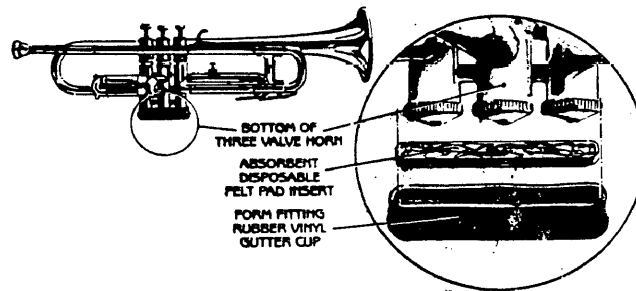

Fig. 3. "Grime Gutter" (International Trumpet Guild Journal 28).
Anyone who finds the trumpet's upper register tight or stuffy should try loosening the bottom valve caps, particularly the third valve cap. Better yet, loosen all caps one or more turns and put on a "Grime Gutter" (see Figure 3). If all the bottom caps are loosened until they are held on by only one or two threads (with the Grime Gutter), the main tuning slide must be pulled in as the pitch of the whole instrument is lowered. Experiment to find optimum position of the bottom caps. Anyone who has problems with second valve being sharp should loosen the second cap a little more. (2)